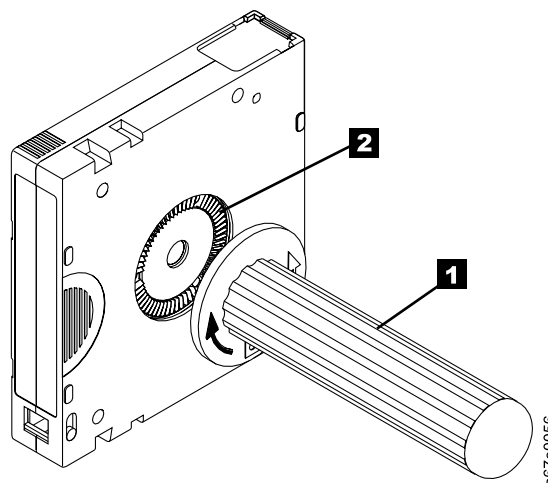

Figure 18. Rewinding the tape into the cartridge
5. To rewind the tape, insert the cartridge manual rewind tool (**1** in Figure 18) into the cartridge's hub **2** and turn it clockwise until the tape becomes taut.